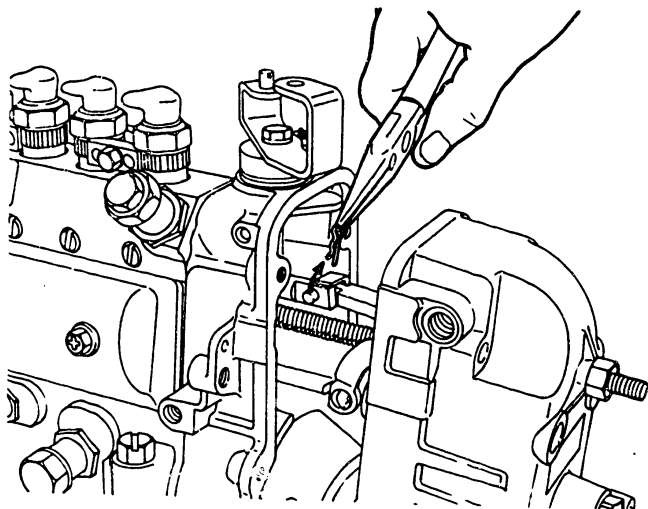

Fig. 25 Drawing out snap-pin
13. Remove the link (174) from the control rack.
To do this, draw out the snap-pin (176) with long-nose pliers as shown in Fig. 25. Then, slide the governor cover horizontally, so that the link pin may be removed from the control rack.